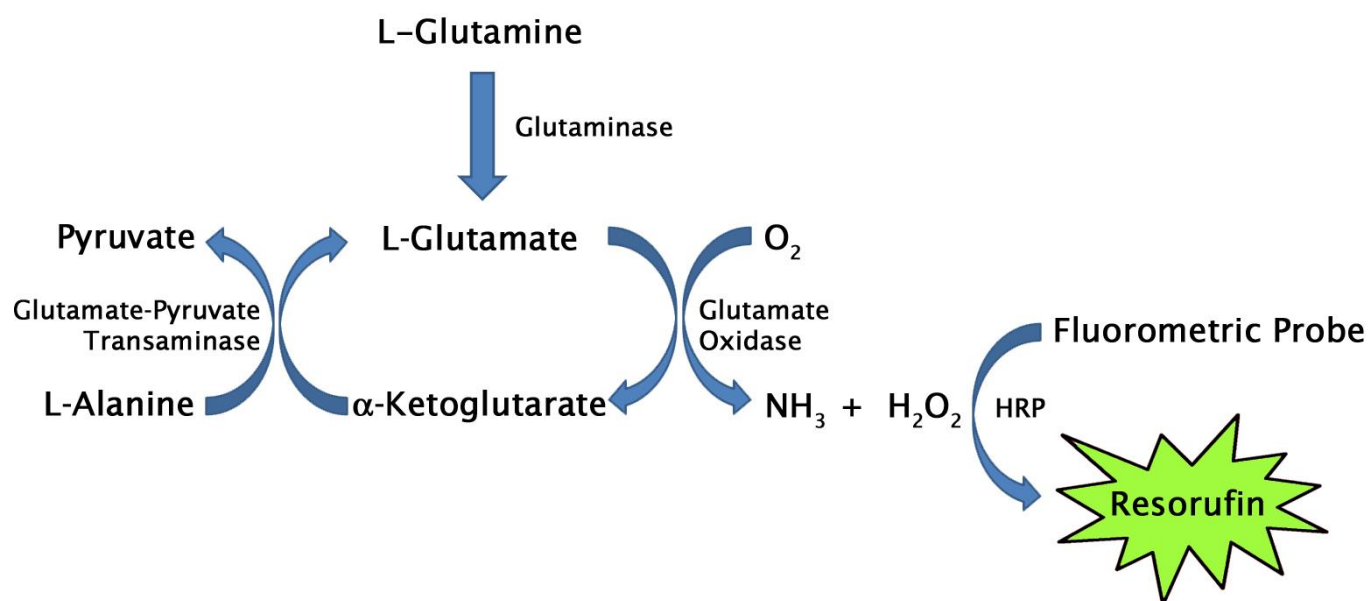

Figure 1. Glutamine Assay Principle.
The Glutamine Assay Kit is a sensitive quantitative fluorometric assay for glutamate. Glutaminase converts glutamine and H_2O to glutamate and NH_3 . Glutamate oxidase converts glutamate to α -ketoglutarate and NH_3 as well as H_2O_2 . L-alanine and glutamate-pyruvate transaminase are also added to the reaction in order to regenerate glutamate and H_2O_2 . As a result, multiple rounds of the reaction occur which results in significant amplification of H_2O_2 production. In the presence of HRP, the Fluorometric Probe reacts with H_2O_2 in a 1:1 stoichiometry to produce highly fluorescent Resorufin. The Resorufin product can be easily read by a fluorescence microplate reader with an excitation of 530-560 nm and an emission of 590 nm (Figure 1). Fluorescence values are proportional to the glutamine levels within the samples. The glutamine content in unknown samples is determined by comparison with a standard curve.
3. Graph the standard curve (see Figure 1).